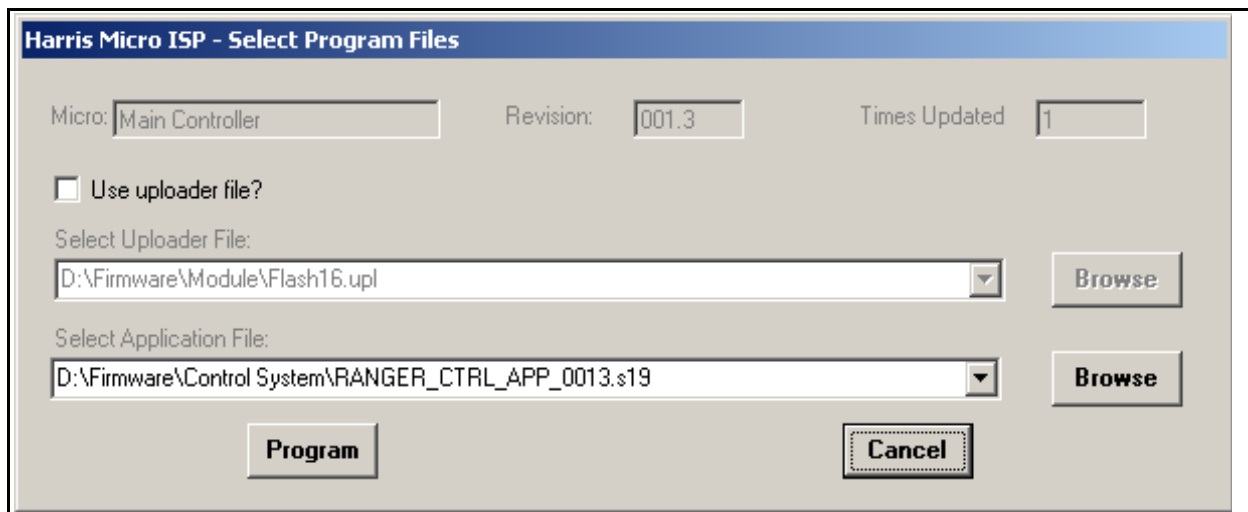

**Figure 6-3 Response to “Query Micros”**
**STEP 6** Press Query Micros; wait for system to recognize the 4 controller boards as shown in Figure 6-3. If it does not find the micros, press Stop Query, change the COM port and press Query Micros again.
**STEP 7** If you only see one micro (RF Monitor, PS Monitor or External I/O), instead of the four, as in Figure 6-3, press the Break Bridge button and then press Query Micros again. This will clear any previous ISP bridge connection and you should now see all four micros.
**STEP 14** To program another controller board or to simply check the current firmware revisions, press the “Break Bridge” button and then press Query micros. This should bring up the display shown in Figure 6-3. Select the next micro to be updated and repeat the procedure if necessary.